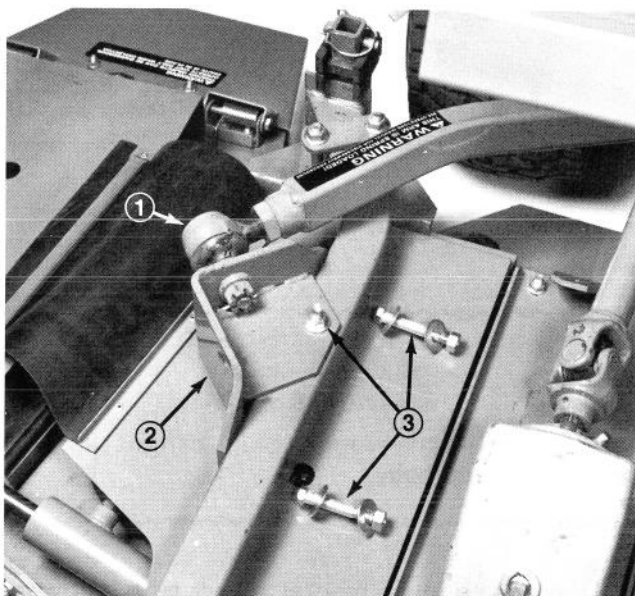

Figure 11
3. Secure the push arm ball joint to the right hand mounting bracket (Fig. 11) with castle nut and cotter pin. Tighten nut securely before installing the cotter pin.
5. Secure mounting bracket to caster arm with original hardware (Fig. 11). Bolts should be tightened to 45 ft. lbs. (60 N·m).